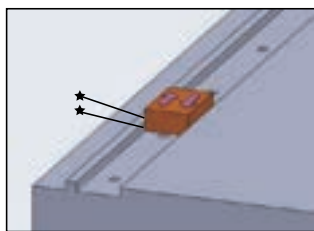

Fig 1.11.6 Checking the Mounting Surface.
(A) Prior to assembly, always remove all burrs, dents and dust that are likely to form on the mounting surface of the machine on which Linear Guide is to be installed. (Fig 1.11.6)